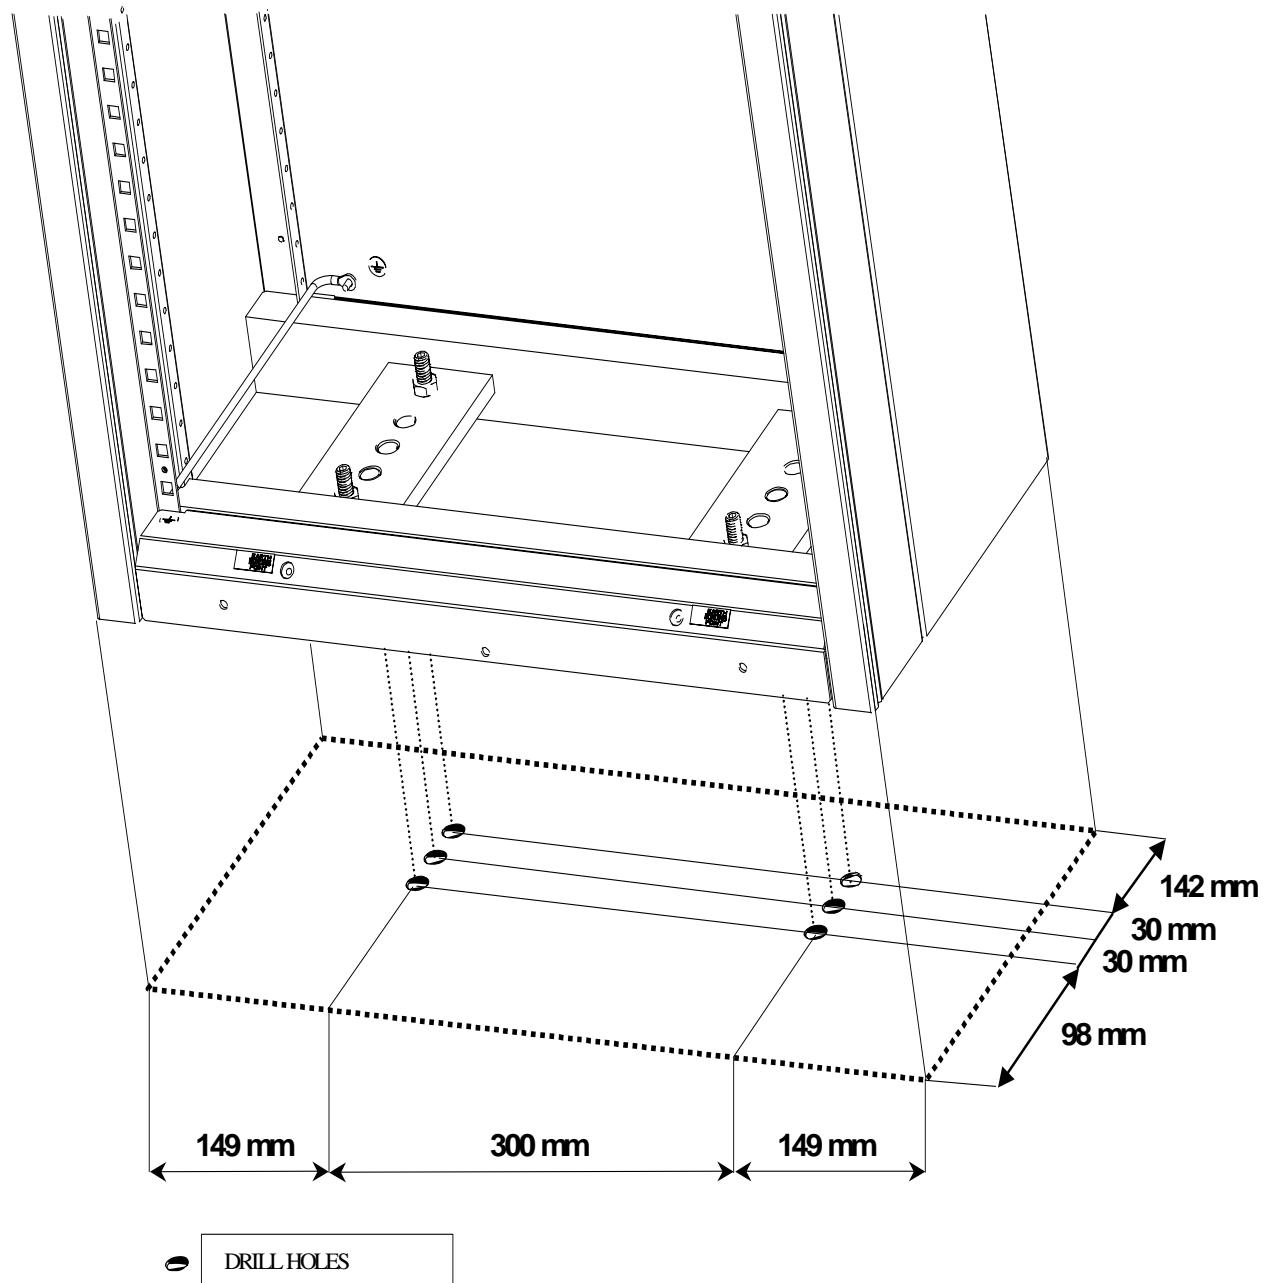
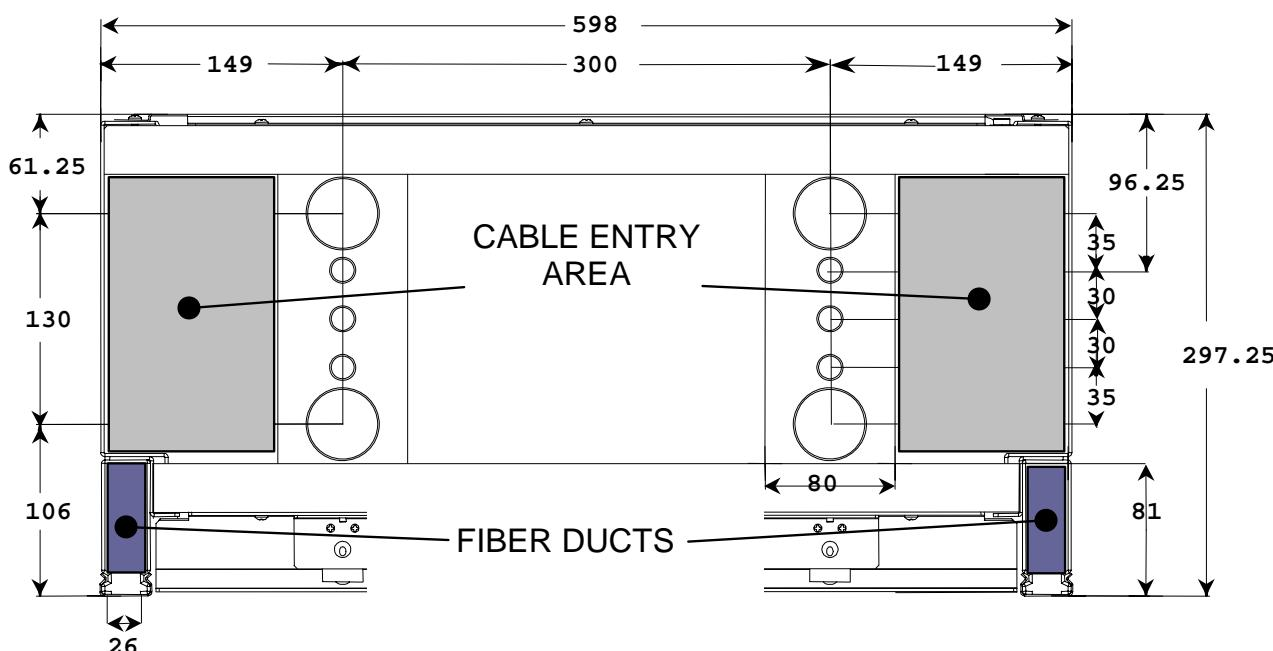

Figure 92 - rack - Drill Holes for Anchoring to the Floor (single rack)
Figure 93 - rack - Floor tile drilling template
- Mark the base-plate with six holes (1) to be drilled on the floor
- Temporarily remove the rack and drill the holes at the points drawn on the floor (see Figure 92 on page 120).
Figure 92 on page 120). In this case a hole must be created for the cables coming from the bottom according to Figure 93 on page 121. The rack fastening is to be mounted on the concrete floor below using a suitable stud as shown in